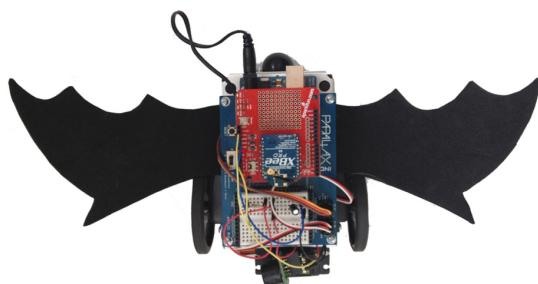

Figure 12-1 BatBot
In this chapter, I'm going to talk about artificial intelligence (AI) and three categories of artificially intelligent robots (remote-controlled, semi-autonomous, and fully autonomous). And then you're going to build BatBot, as shown in Figure 12-1, a semi-autonomous robot.